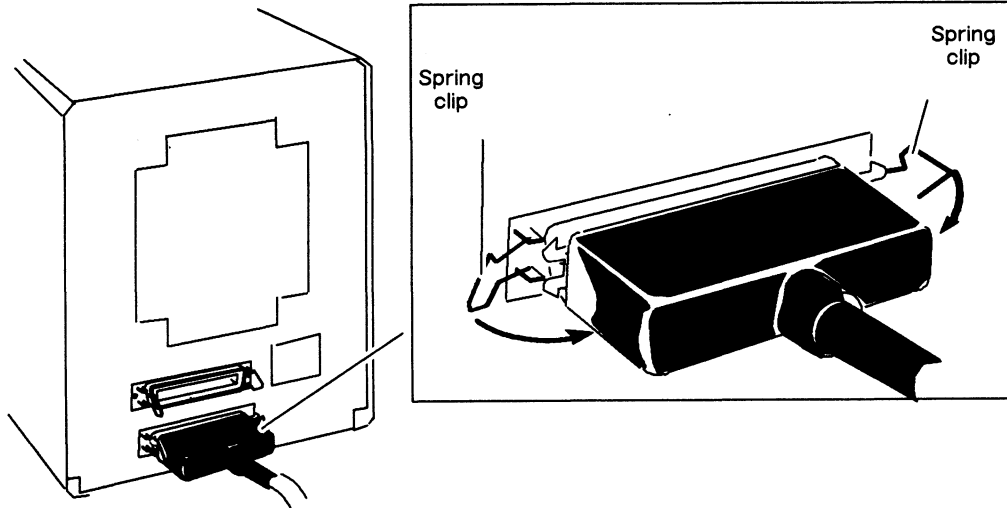

Figure 2-20 Connecting and Securing the SCSI Bus Cable
- Secure the SCSI bus cable's connector by closing over the two spring clips, as shown in Figure 2-20.